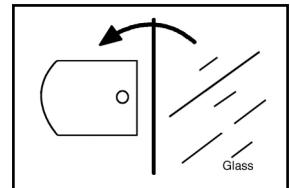

Fig. 1.
2. Turn the brackets so that the glass can be and cleaned at the sink (Fig. 1.)